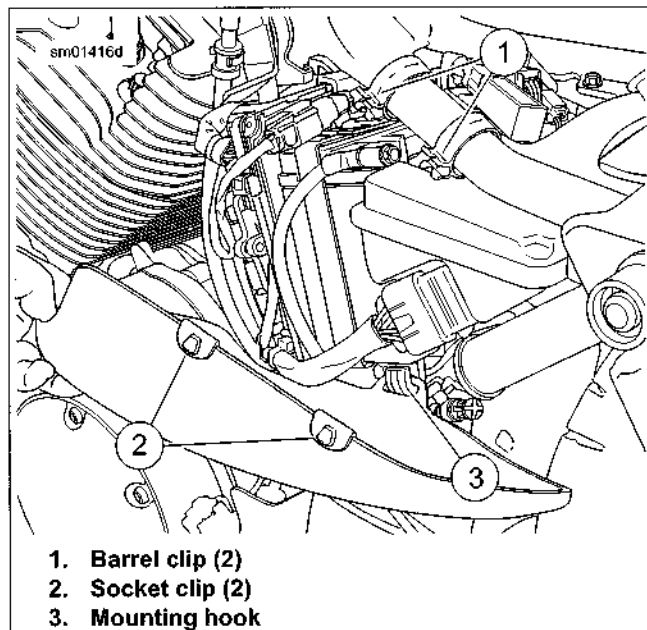

Figure 2-84. Left Side Cover
3. See Figure 2-84. Gently pull cover with barrel clips (1) away from plastic socket clips (2) on frame.